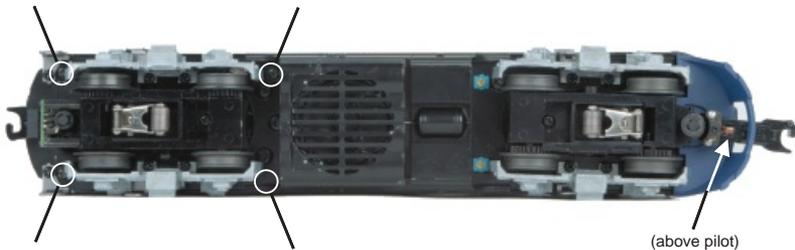

Figure 3: Body Removal Screw Locations
You must lubricate the engine before operating it. Use a light household oil and follow the lubrication points marked “L” in Fig. 3 on Page 11. Do not over oil. Use only a drop or two on each pivot point.
You should regularly oil the engine and pickup rollers to prevent them from squeaking. Use light household oil and follow the lubrication points marked “L” in Fig. 3. Do not over oil. Use only a drop or two on each pivot point.
2. Remove the truck blocks from the chassis by unscrewing the large Phillips motor mount screw on the bottom of each truck block, as shown in Figure 3.